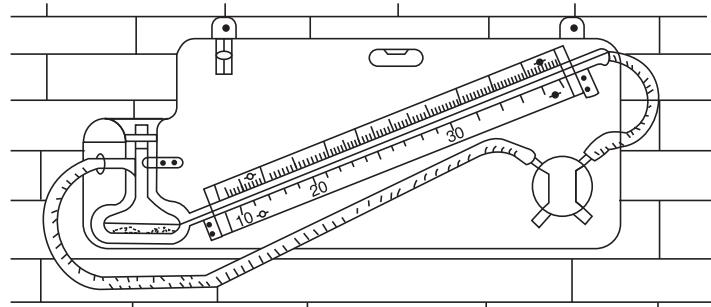

Fig. 1.17. Inclined manometer.
**3. Micro-manometer.** The U-tube manometer (discussed above) is not very suitable for measuring very low pressures. Therefore, for such purposes, precision types are required. They are called *multiplying* or *micro-manometers*, because they multiply the movement of the level of the liquid. By far the most widely used type of multiplying manometer is the *inclined manometer*. If the tube is inclined as shown in Fig. 1.17 the sensitiveness of the U-tube manometer is increased. The inclined tube *causes a larger displacement of the liquid along the tube for a given pressure difference*.